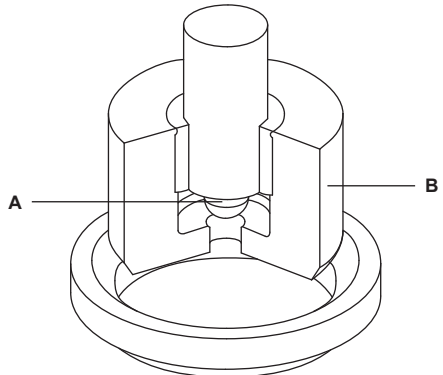

Fig. 2
- (See Figure 2) The pre-lifting plug (A) acts as a pilot valve and is opened first, allowing the medium to pass through at a controlled rate. The differential pressure then reduces across the valve - allowing the main valve plug (B) to be easily lifted off its seat. To assist closing the valve the flowing medium must enter on the 'Bellows' side, this is the opposite to normal installation.